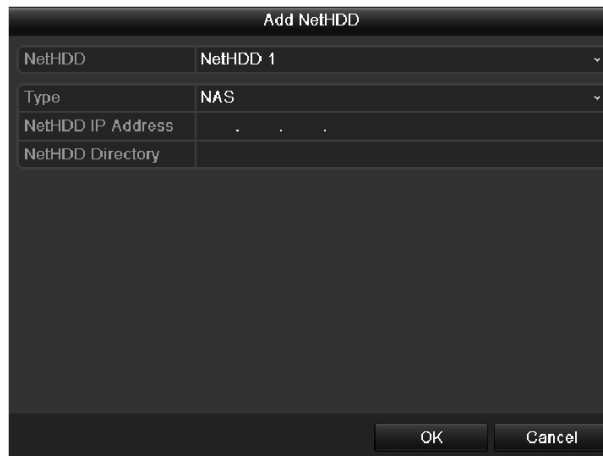

Figure 12-7 HDD Information Interface
Step 2 Click the **Add** button to enter the Add NetHDD interface, as shown in Figure 12-7.